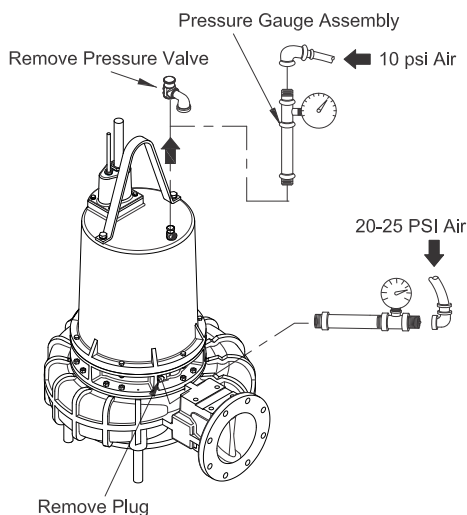

Figure 2
Motor Housing - Oil should be at normal level. Remove pressure valve (11) from motor housing (3). Apply pipe sealant to pressure gauge assembly and tighten into hole (See Figure 2). Pressurize motor housing to 10 PSI. Use soap solution around the sealed areas above the oil level and inspect joints for "air bubbles".